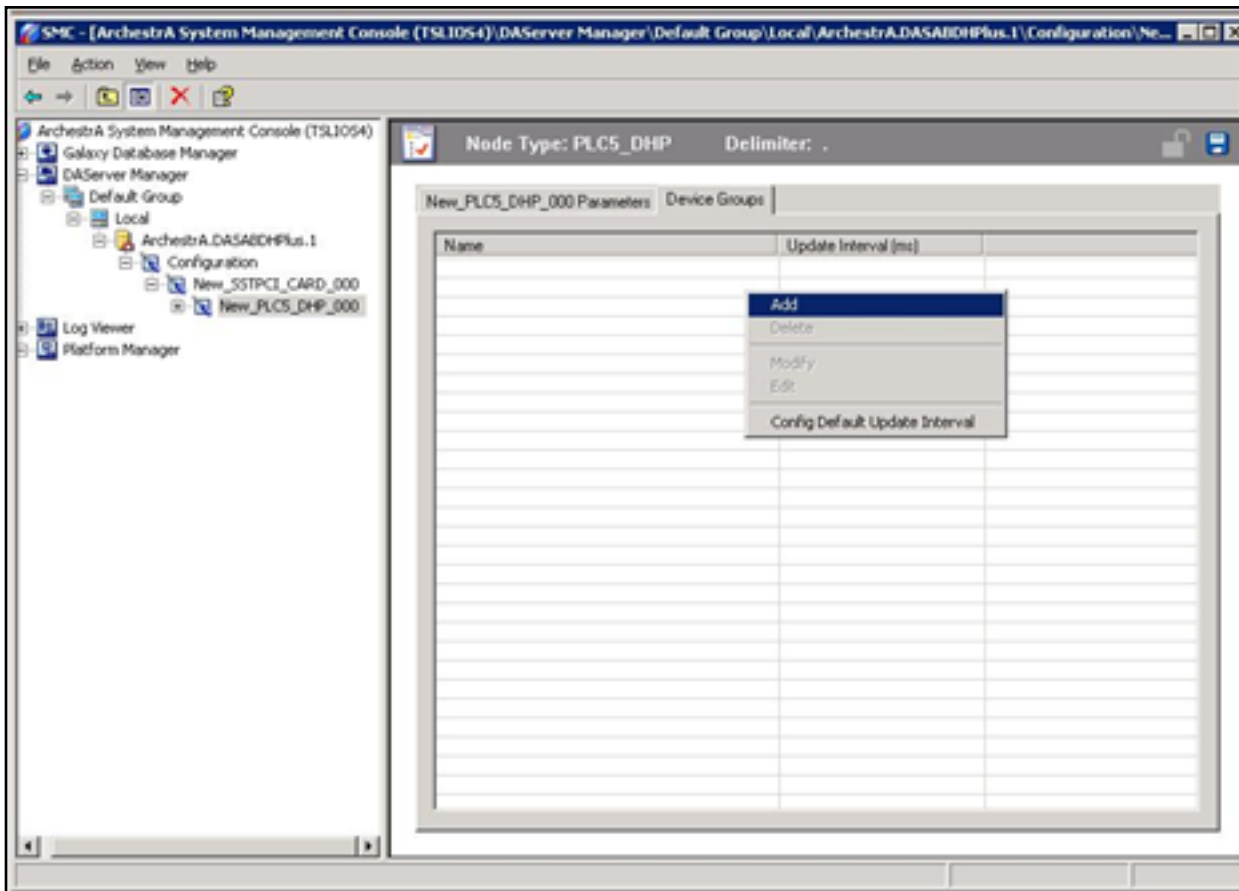

Figure 19: Add Device Group
3. Right-click within the **Device Groups** tab field, and select **Add** to add device group(s) (Figure 19 below):